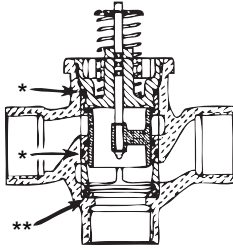

Fig. 3.
6. Clean the valve surfaces shown* (Fig. 3) to ensure the new cartridge O-rings seal at these points. Use care to avoid damage to these surfaces. (** for 3-way valves only).